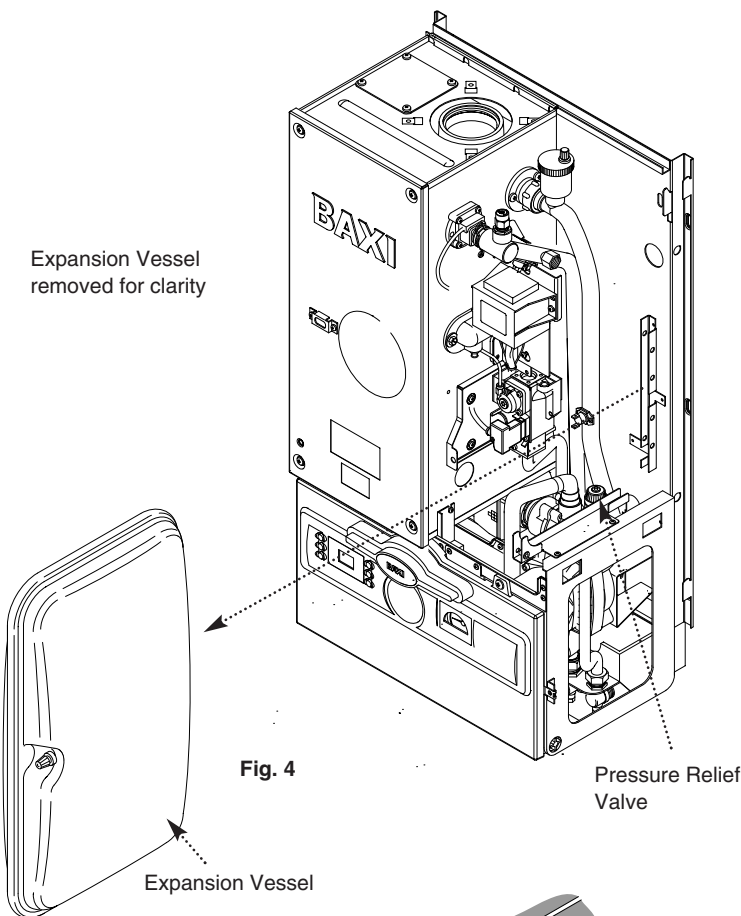

Fig. 4
6.5 Expansion Vessel - CH only (Fig. 4)
6.6 Pressure Relief Valve (Fig. 4 & 5)